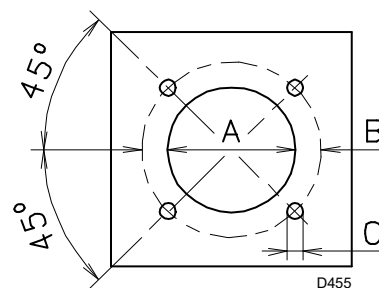

Fig. 13
Drill the combustion chamber locking plate as shown in Fig. 13 (Tab. J). The position of the threaded holes can be marked using the thermal screen supplied with the burner.
- Fit the entire burner onto the boiler hole prepared previously (Fig. 13), and fasten with the screws supplied.